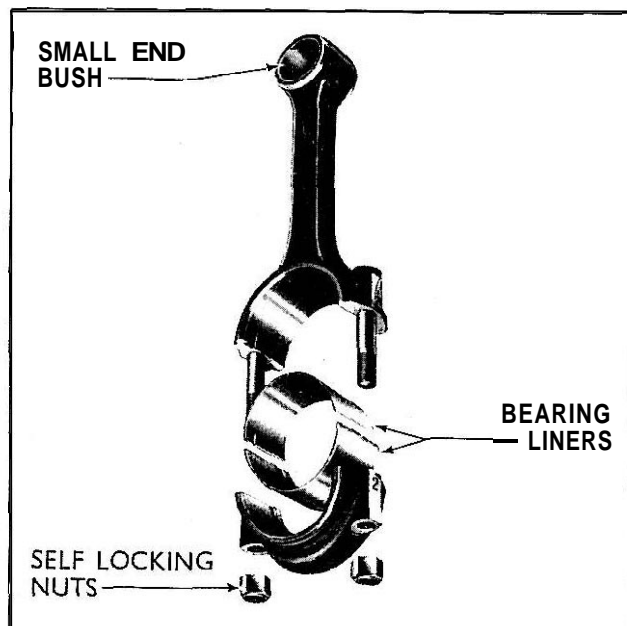

Fig. 58
Connecting rods are numbered on rod and cap when installed in the engine to facilitate correct reassembly, should they be dismantled in service. (See Fig. 58.)
- 5 Remove the self-locking nuts from the connecting rod bolts and remove the cap and the bottom half of the big end bearing liner. (See Fig. 58.)